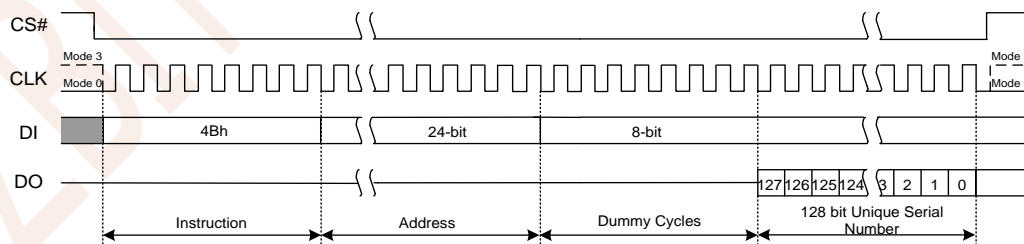

Figure 7.38 Read unique ID Number Instruction
To read out the lock bit value of a specific block or sector as illustrated in Figure 6.2, a Read Block/Sector Lock command must be issued by driving CS# low, shifting the instruction code “3Dh” into the Data Input (DI) pin on the rising edge of CLK, followed by a 24-bit address. The Block/Sector Lock bit value will be shifted out on the DO pin at the falling edge of CLK with most significant bit (MSB) first as shown in Figure7.38. If the least significant bit (LSB) is 1, the corresponding block/sector is locked; if LSB=0, the corresponding block/sector is unlocked, Erase/Program operation can be performed.
The Read Unique ID Number instruction accesses a factory-set read-only 128-bit number which is unique to each ZB25LQ128B device. The ID number can be used in conjunction with user software methods to help prevent copying or cloning of a system. The Read Unique ID instruction is initiated by driving the CS# pin low and shifting the instruction code "4Bh" followed by a 24-bit address(A23-A0) of 000000h and one byte dummy clock. After that, the 128-bit ID is shifted out on the falling edge of CLK as shown in Figure 7.38.